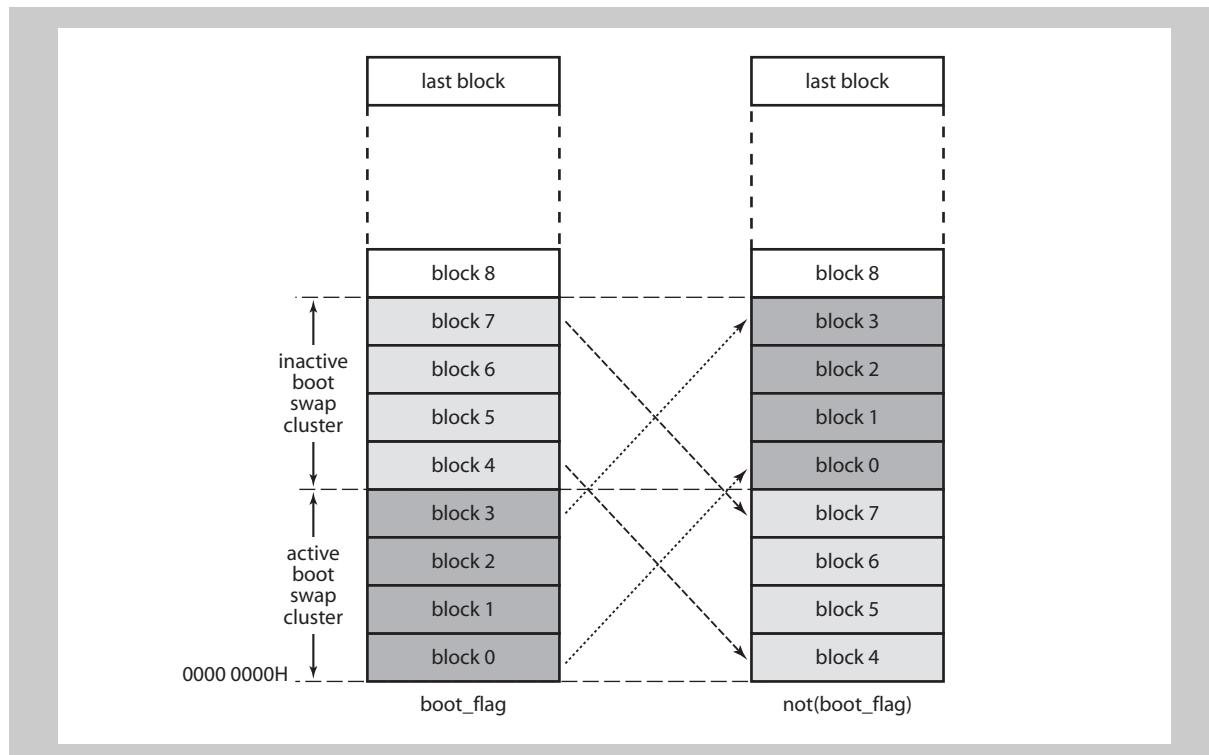

Figure 7-16 Boot swap cluster swapping function
*Figure 7-16 on page 329 shows an example of the boot block swapping function with a cluster size of 4 flash memory blocks. After inverting the boot\_flag - it becomes not(boot\_flag) - blocks 4 to 7 become the active boot cluster. Thus after next reset release the user's program starts from the new boot swap cluster.*